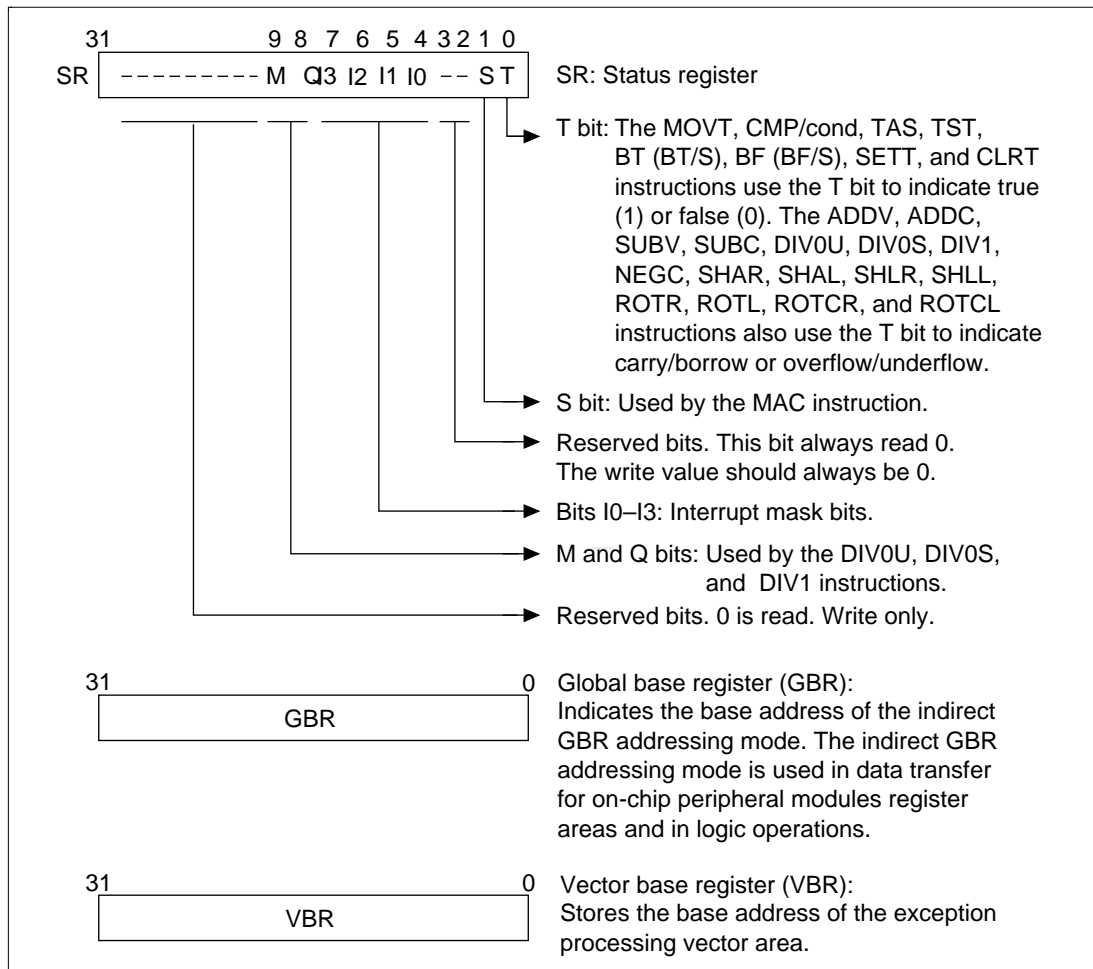

Figure 2.2 Control Registers
The 32-bit control registers consist of the 32-bit status register (SR), global base register (GBR), and vector base register (VBR). The status register indicates processing states. The global base register functions as a base address for the indirect GBR addressing mode to transfer data to the registers of on-chip peripheral modules. The vector base register functions as the base address of the exception processing vector area (including interrupts). Figure 2.2 shows a control register.